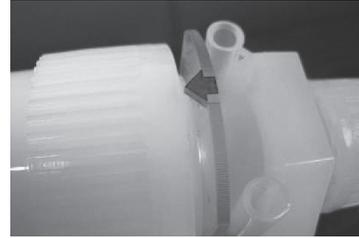

Figure 5
1. Install smaller clip on to flats located on the EP flare fitting body (Figure 5).